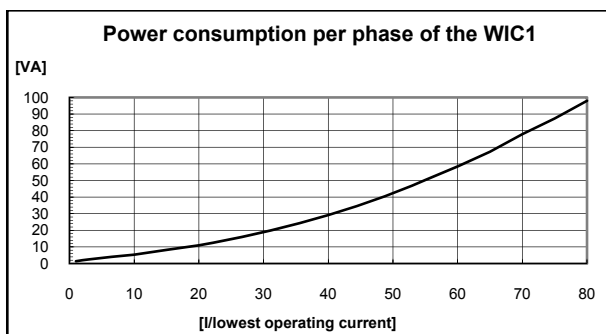

Figure 5.1: Power consumption of one phase over the entire measuring range of the WIC1
- Sufficient output power for the switching points to be tested (see fig. 5.1 and 5.2).